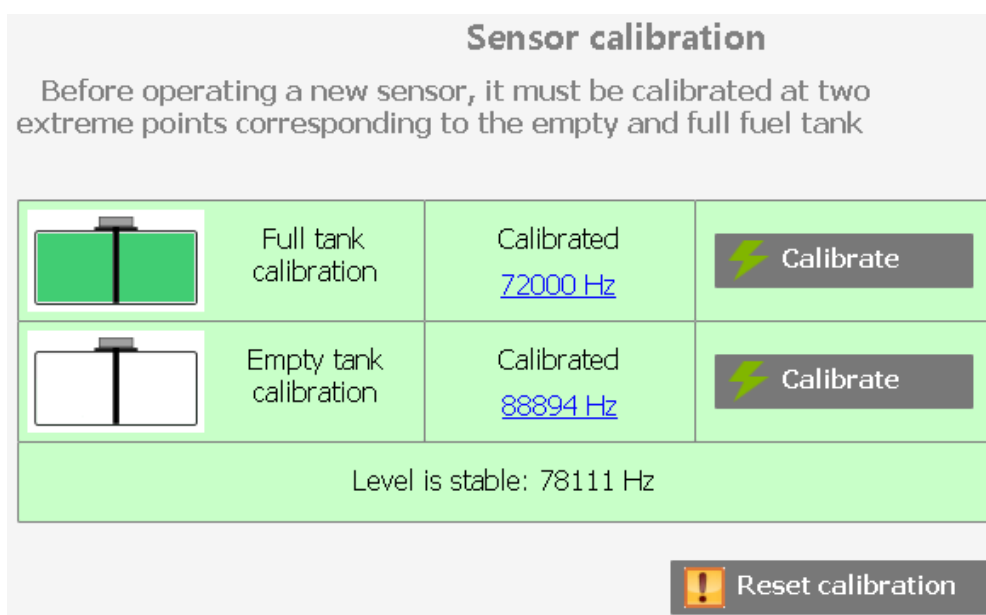

Fig 13. Sensor calibration.
5. After stabilizing the readings in the program, perform calibration on a "full tank" (Figure 13).
7. After stabilizing the indications in the program, perform the calibration on "empty tank" (Figure 13).